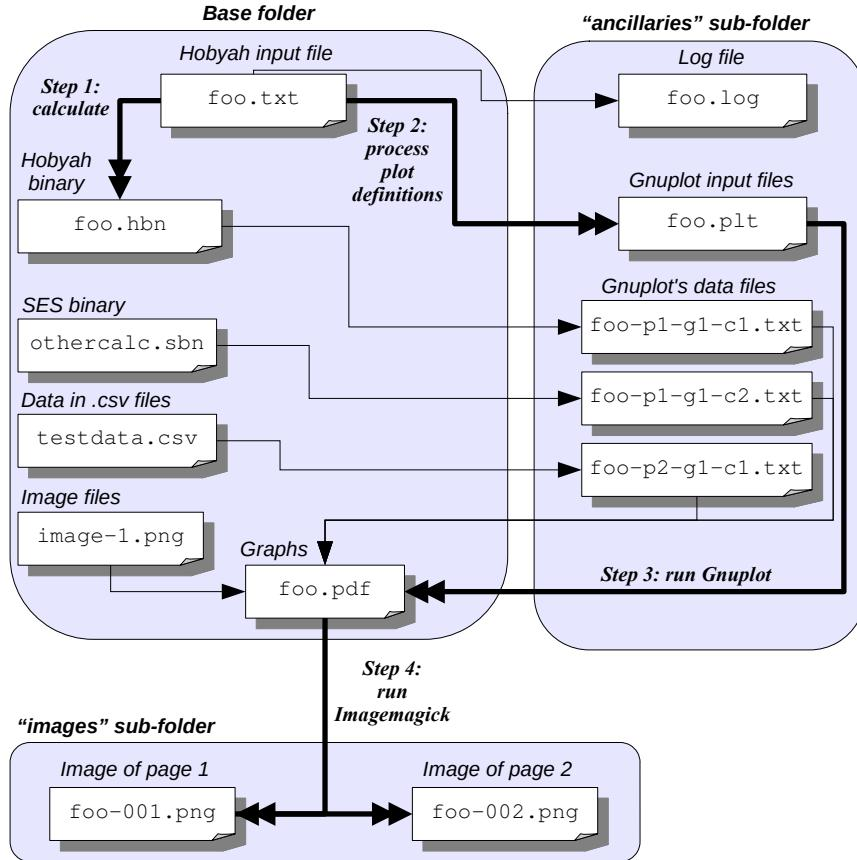

Figure 1.9: Program flow, files and folder structure
Figure 1.9 depicts the program operations and the locations of files and sub-folders generated/read when an input file for Hobyah (let's call it `foo.txt`) is fed to `Hobyah.py` for processing.
The large rounded rectangles in Figure 1.9 represent folders. There is one base folder, which holds the input file (`foo.txt` at the top left of the Figure). There are two subfolders within the base folder. One holds files that are either only of interest during debugging (the `ancillaries` folder), the other contains image files that would otherwise clutter up the base folder (the `images` folder).
The thick lines with double-headed arrows in Figure 1.9 represent a program running and generating new files. The thinner lines represent transfers of data from one program to another via files.
Gnuplot. It then calls Gnuplot to generate one or more new `.pdf` files full of graphs. In most cases the process will end there (run a calculation, create one or more `.pdf` files of output). But it can be ordered to call ImageMagick to convert the pages of those `.pdf` to `.png` images (step 4 in Figure 1.9).
Some notes on the files and folders shown in Figure 1.9:
- `foo.pdf`: this holds one or more pages of graphs/images generated by the `plot` function. These graphs may be of calculation results in `foo.hbn`, from calculation results in other binary files, (like `othercalc.sbn` in Figure 1.9), from `.csv` files (like `testdata.csv`) and may include images (like `image-1.png`). More than one `.pdf` file may be created.
It is worth reiterating that Hobyah input files can be used purely for calculating (step 1 in Figure 1.9) or purely for plotting (steps 2 and 3 in Figure 1.9). It is useful to be able to run a calculation once then run without recalculating as you adjust the graph extents or add annotations.